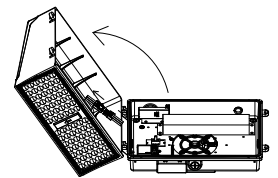

Figure 8
3. Open the fixture and disconnect the connection terminals between the LED driver and LEDs. Remove the heat sink from the back plate. (see Fig. 8)